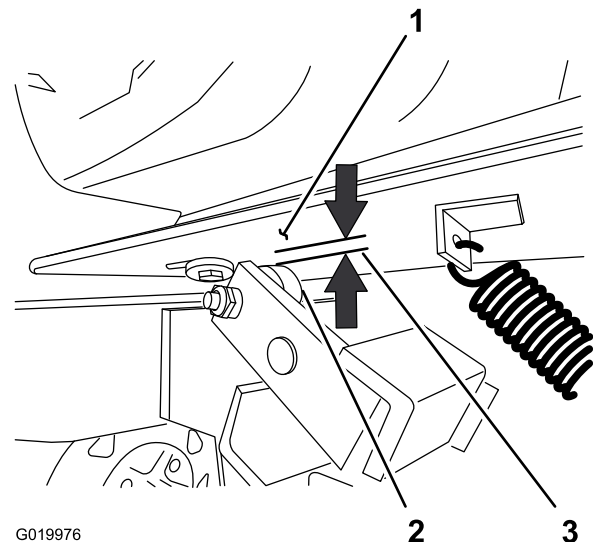

Figure 54
2. Measure the air gap between the engine deck and the roller on the clutch (Figure 54).